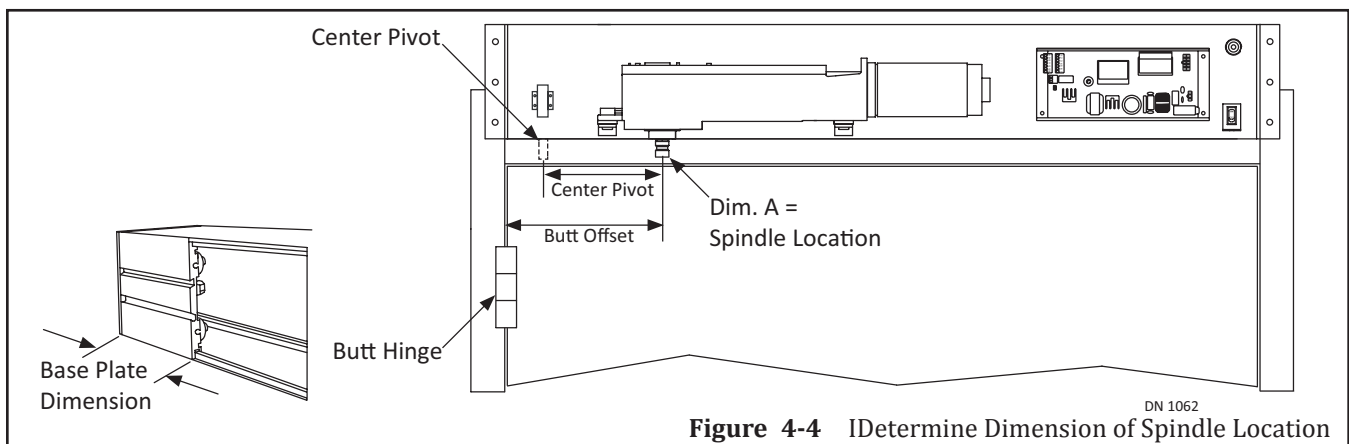

Figure 4-4 Determine Dimension of Spindle Location
2. Mark that measurement onto the face of Swing Door. Please see Figure 4-4.